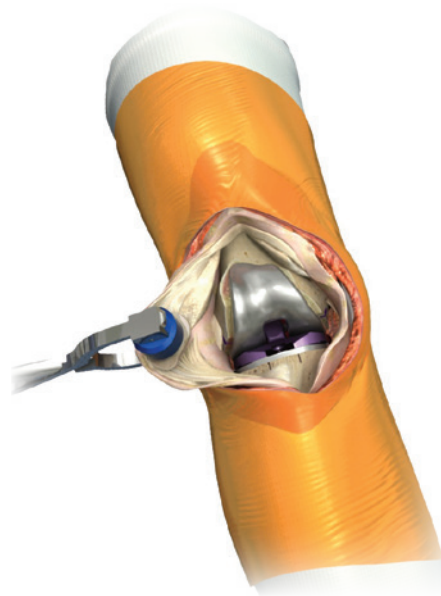

Figure 26e
7. Apply bone cement to the patella. Place the patellar implant onto the patella and clamp into the bone. Remove excess cement (Figure 26e).